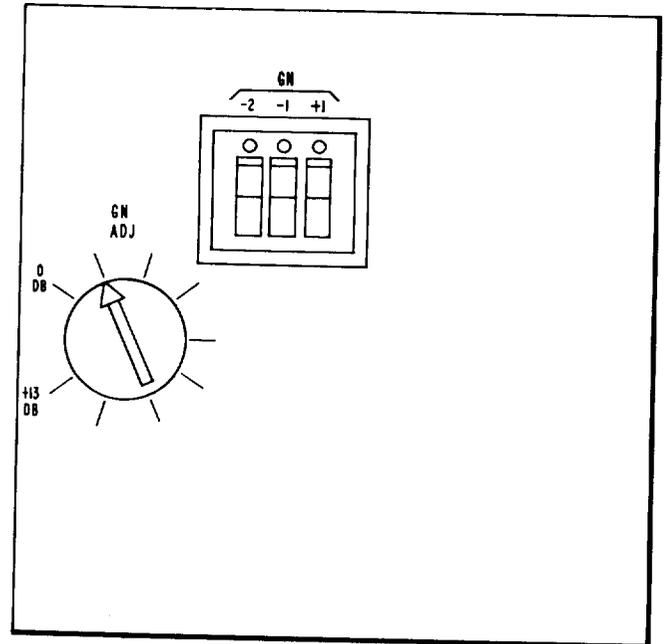

Fig. 8—309B Amplifier Unit Controls
2.04 The 309B amplifier unit provides both gain and equalization. It is used in the opposite direction of transmission to the 309A unit in the J99343RB, RG and J99343RD, RH loaded repeater and in both directions of transmission in the J99343RC 4-2 and J99343RE 24 nonloaded repeaters. Figure 8 illustrates the 309B amplifier unit controls.